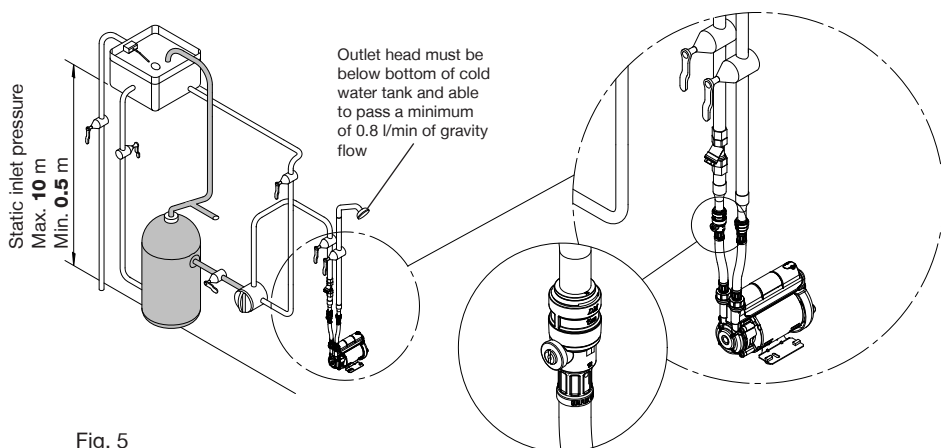

Fig. 5
- 2.16 **Static inlet pressure:** Before deciding where to locate the unit check to ensure the static inlet head between pump and the bottom of the cold water tank (Figs. 5 & 6) is at least 0.5 metre and does not exceed the max inlet head of 10 metres.
- 2.19 **Static outlet pressure:** The static outlet head (Figs. 5 & 6) must also be within the maximum requirement of 10 metres.